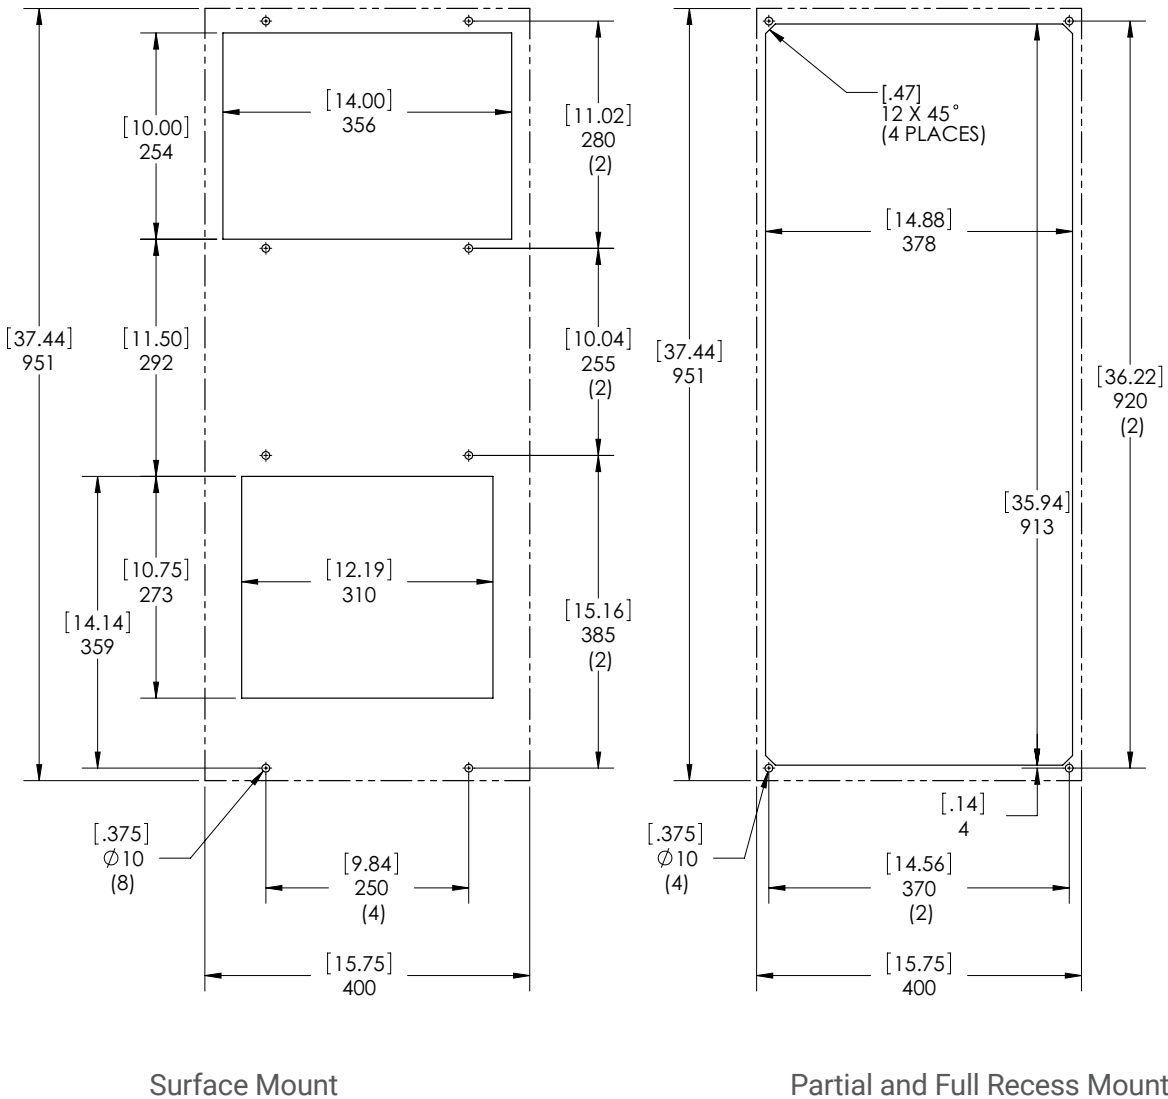

Figure 9
2. Using the cutout template provided with the unit, prepare the enclosure. See Figure 9. The front of the unit requires a half meter clearance for proper airflow. Five centimeters is required on each side of the unit. To avoid condensate overflow, unit must be mounted within 3° of level.